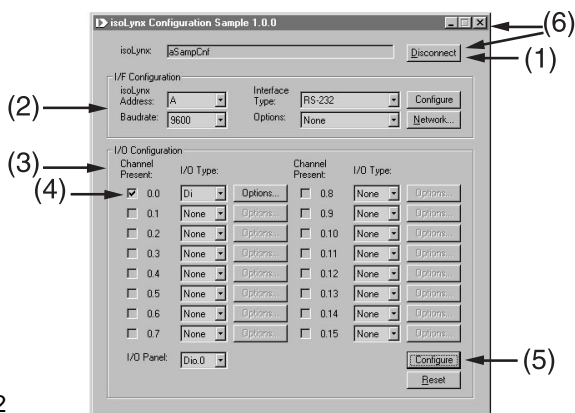

Figure 2.2
From the Demo folder run the isoLynx™ Configuration sample program Config.exe. Config will display a dialog box similar to Figure 2.2. Figure 2.2 shows the Configuration Sample dialog box as it appears after configuration, so some information and labels may have changed from the initial states.
(5) Click on the **Configure** button in the bottom right corner to send isoLynx™ its new configuration. Click **Yes** in the I/O Configure question box. After a short communication pause, the isoLynx™ Digital I/O Backpanel 0 is now configured and communicating with the isoLynx™ Analog I/O Base Unit.
(6) Before running the Input sample program, you must **Disconnect** the Configure sample program. The example in Figure 2.2 has configured panel 0, channel 0. At this time, you may also click on **_** to minimize or **X** to close the Configuration dialog box.